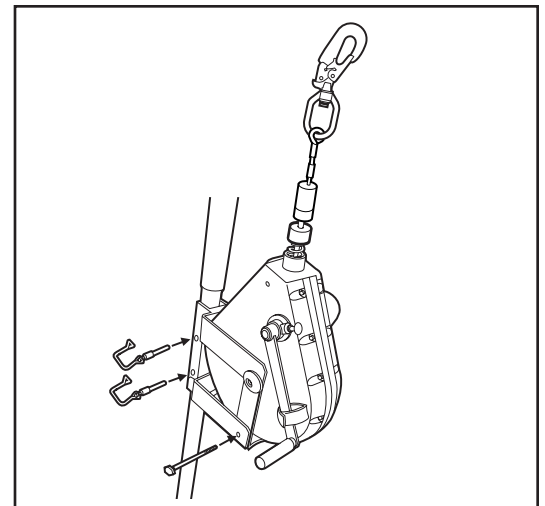

Fig. 2
5.3.2 Tripod Leg Installation: (See Fig. 2.) The Extricator bracket can be used to attach the extricator to the leg of an SM/RTC tripod.